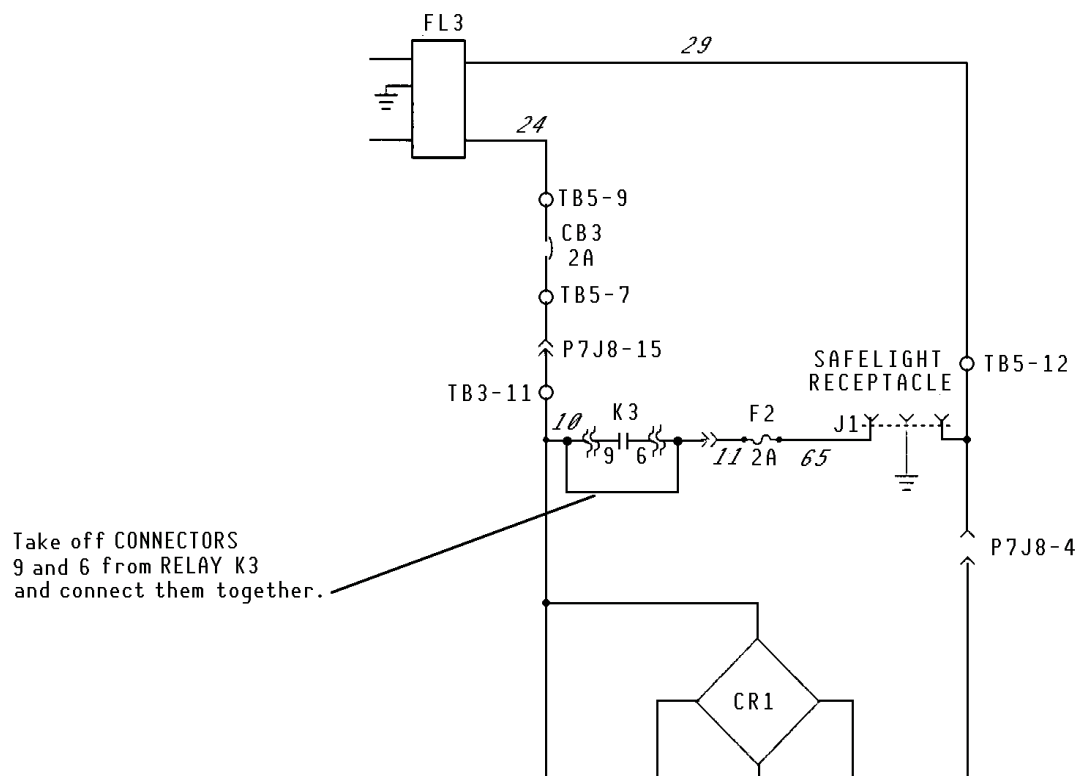

figure 7-4
4. Contact 9-6 of Relay K3 has to be jumpered so that there is 120 VAC at the SAFELIGHT RECEPTACLE as long as the M6B is switched on. See figure 7-4 and 7-5.